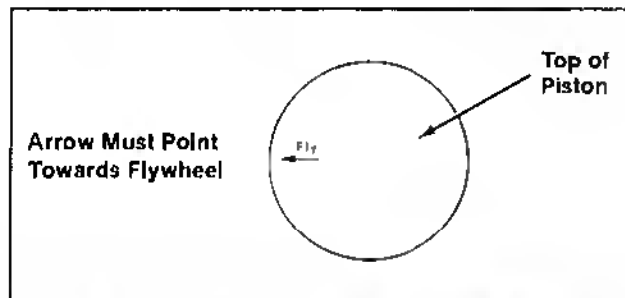

Figure 11-29. Piston Installation Direction Identifier.
3. Orient the "Fly" mark on pistons so it points towards flywheel (intake port) side of cylinder barrels. Refer to Figure 11-29.